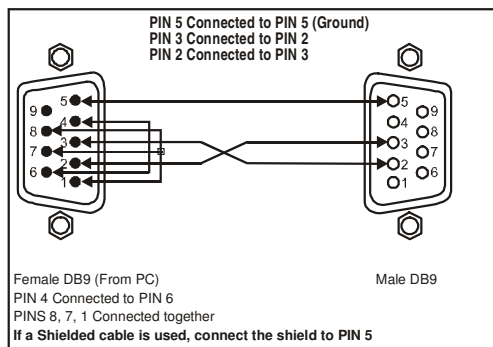

Figure 3: Connecting a PC without using a Null-modem Adapter
- Connect the RS-232 9-pin D-sub port on your PC to the RS-232 9-pin D-sub rear panel port on the Master **VS-120** unit, using a cable illustrated in *Figure 3*.